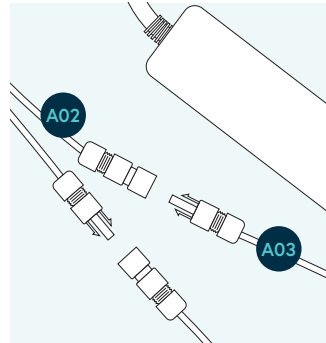

FIGURE 09
1. Connect the MC4 connectors of the power cable **A02** to the MC4 connectors of the AC/DC convertor **A03** (fig. 09).